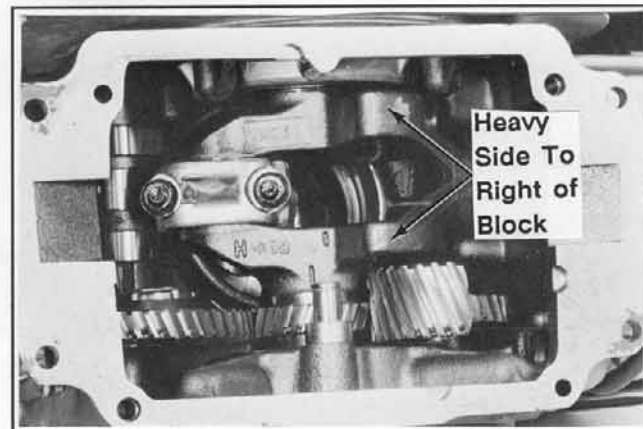

Figure 8. Heavy side of crankshaft right.
6. Install the 3/8" spacer and one (1) .010" shim spacer to the stub shaft for the third balance gear.
7. Turn crankshaft to position the heavy side of the crankshaft to right side of cylinder block. Refer to Figure 8.